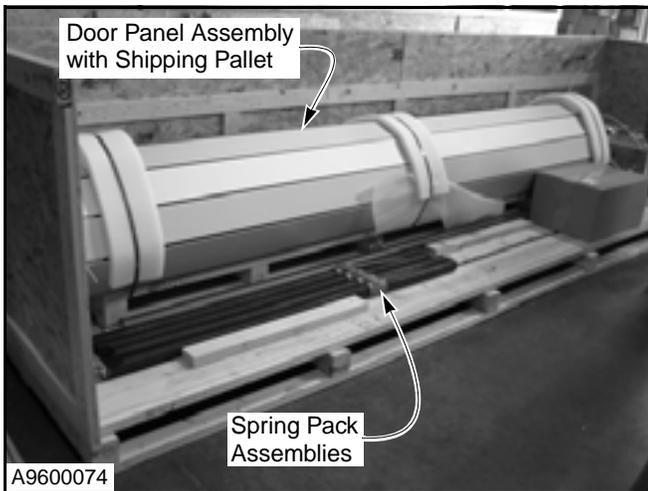

Figure 54
3. Remove door panel assembly from the crate using the shipping pallet that the panel is strapped to and make a general inspection of the door panel. (See Figure 54.)